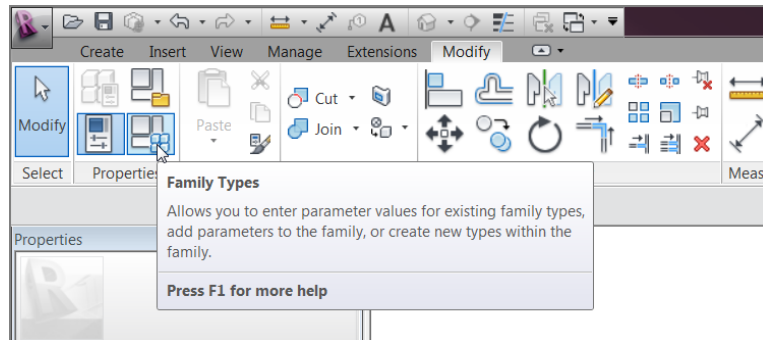

FIGURE 17.8: The Family Types button on the Properties panel
1. On the Properties panel, click the Family Types button, as shown in Figure 17.8.